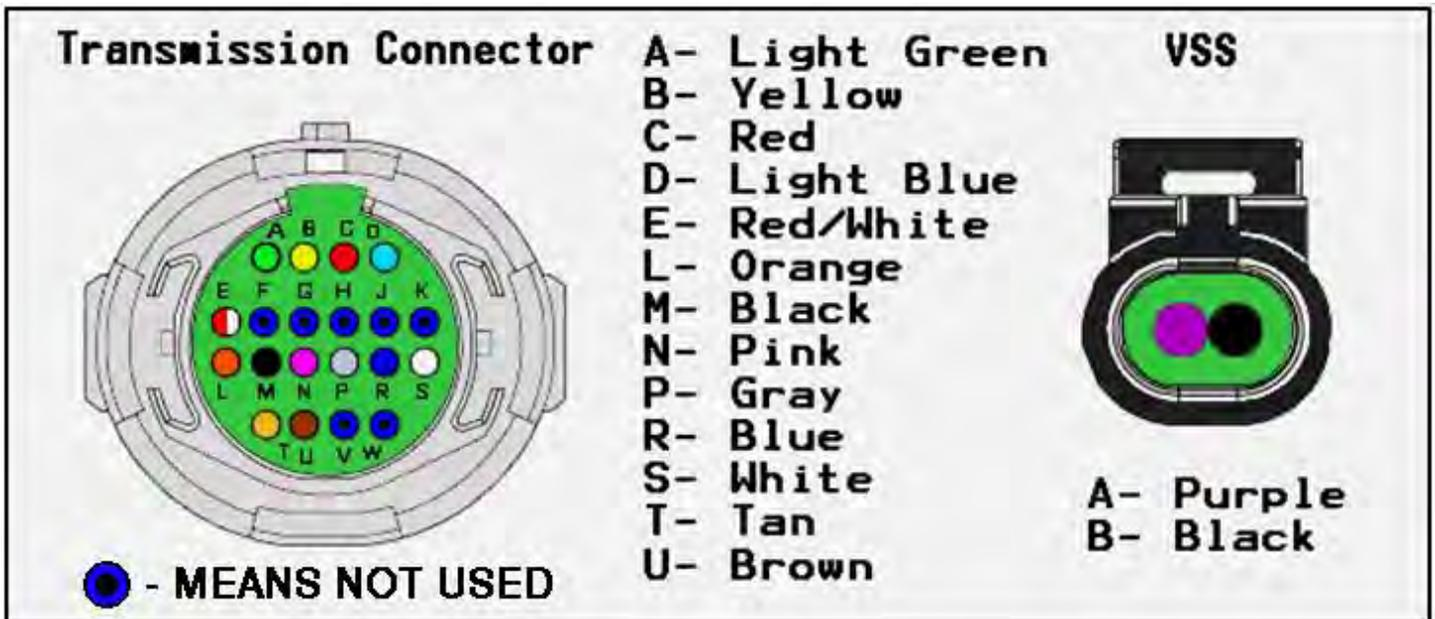

Figure 1 – Transmission Harness Connections on Transmission
1. Start by removing the system from the box and carefully laying it across a workbench or table. Take notice of the main transmission connector and vehicle speed sensor connector. These are only two connections needed for both 4L60E (65E) or a 4L80E (85E) transmissions. This system does NOT require the use of the input shaft speed sensors on the 4L65E or the 4L80E/85E transmissions. See Figure 1 for the pin out of required connections.